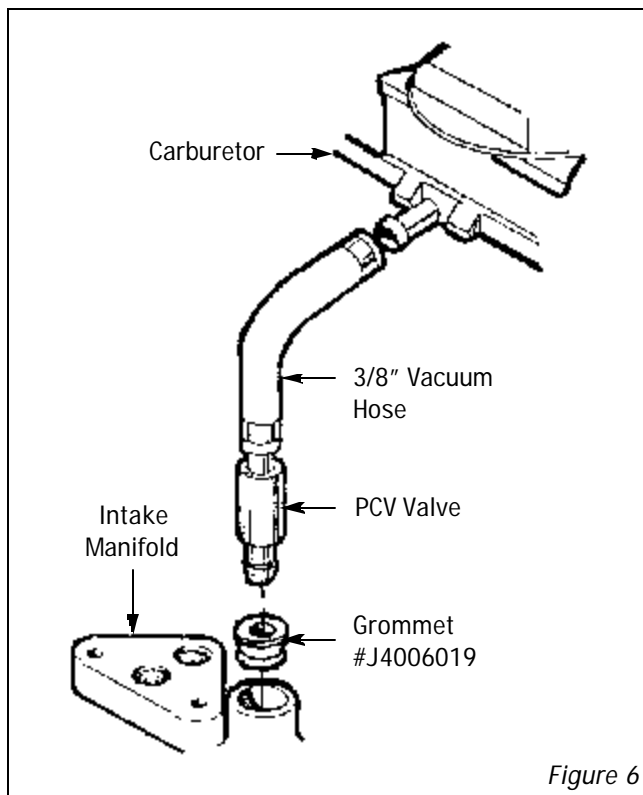

Figure 6
- **PCV VALVE:** Some engines use a PCV valve that is clamped to a hose between the carburetor and manifold. The stock AMC manifold has a 3/8" NPT pipe port at the manifold rather than a hole to accept a rubber grommet which the Edelbrock manifold uses. To re-install the PCV valve to our manifold, you may purchase a grommet from your local AMC/Chrysler dealer, (#J4006019) and 10" of 3/8" vacuum hose (See Figure 6).